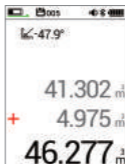

Figure 9 Sum of volume
Step 4: Short press **[*]** key, the instrument will automatically sum the two volumes. The auxiliary display area will display the first and second volume values, and the main display area will display the sum of the two volumes, as shown in Figure 9.